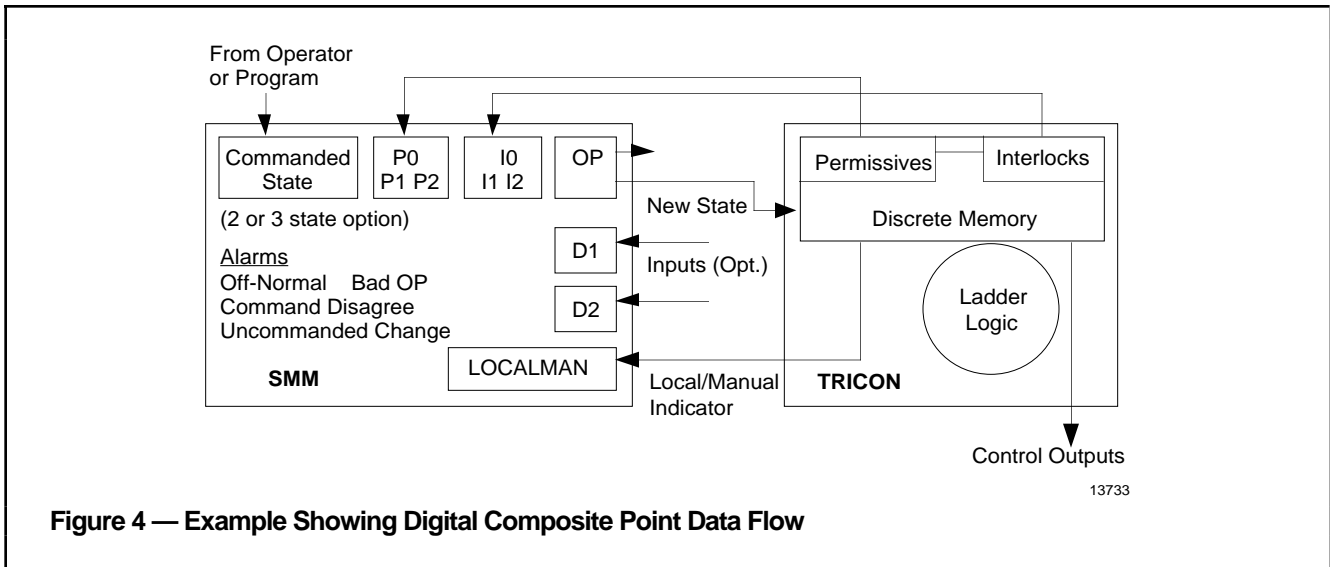

Figure 4 — Example Showing Digital Composite Point Data Flow
Digital Composite: Digital composite (DC) points are multi-input/multi-output digital points used primarily for motors and valves. They provide an improved view of the process to the operator. They are primarily faceplates to display motor control functions implemented in the relay ladder logic program. Figure 4 shows a diagram representing the major parameters associated with this type of point. It shows how the commanded state is passed from the SMM to the TRICON™, where it can be processed by the ladder logic program. Permissives and interlocks, if built into the TRICON™ logic, are communicated to the SMM, where they can influence the resulting output parameter (OP). Process feedback can be provided through one or two optional inputs (D1, D2). A local manual switch status can also be monitored to show if outputs are being